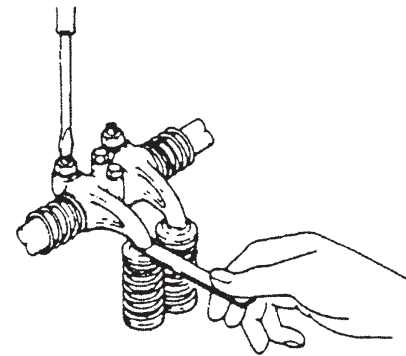

Fig. 1-10
(2) Between the rocker and valve stem put a plug, adjust the screw with a screwdriver needle, when the first cylinder at TDC compression point, to adjust marked "○" of the cylinder, when the sixth-cylinder at the compression on the only point, to adjust marked "●" cylinder. Values shown in Figure 1-10 Valve Clearance 0.4mm (cold-machine).